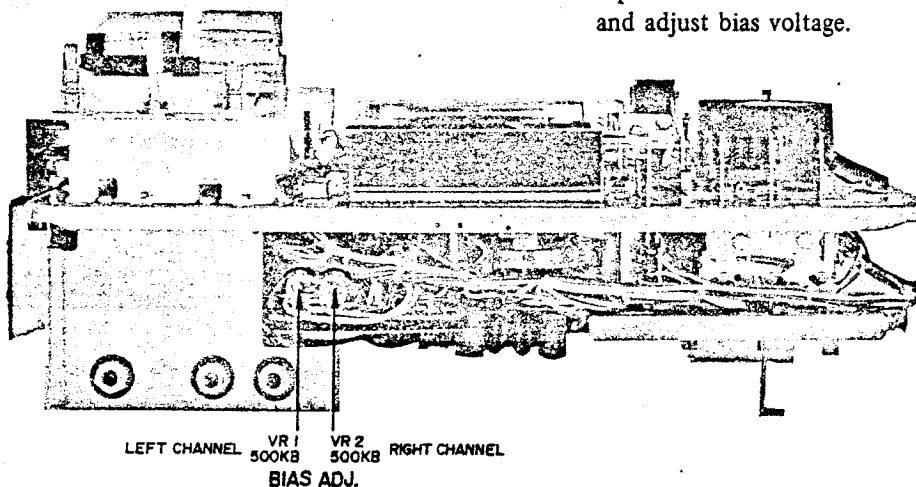

Fig. 22
4. RECORDING BIAS VOLTAGE ADJUSTMENT (Frequency Response Adjustment) (See Figs. 22, 23)
Playback the 1,000 Hz and 10,000 Hz signals recorded in Frequency Response Measuring Method procedure and adjust Bias Adjustment semi-fixed resistor (VR-1, VR-2 500k B) as shown in Figs. 22, 23 so that the output level of these two frequencies are equal. The bias voltage at this time is from 4 to 26V A.C.